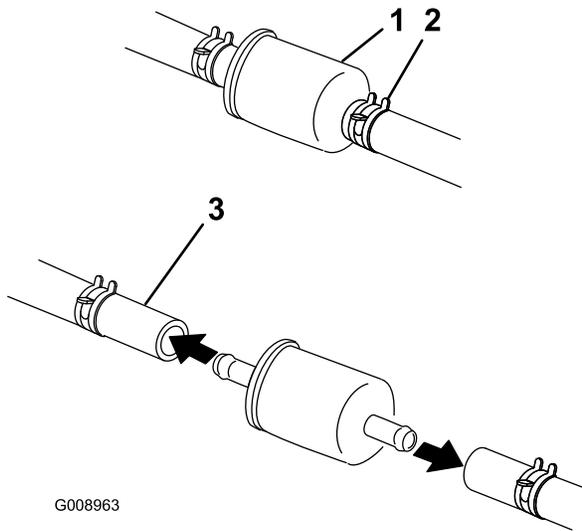

Figure 61
6. Squeeze the ends of the hose clamps together and slide them away from the filter (Figure 61).
8. Install a new filter and move the hose clamps close to the filter (Figure 61).